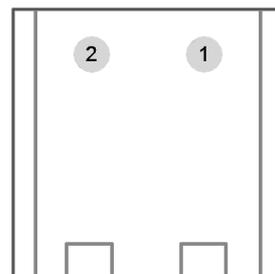

Figure 3-17 Pin Arrangement of Dry Contact IN 1—5 Interface
3.8.4 Definition of dry contact port Pin arrangement of dry contact IN 1—5 interface is shown in Figure 3-17.
- Output dry contacts include operating mode and fault warning of the machine (detailed definitions can be seen in Table 3-4). Every output dry contact port is equipped with a normally open switch and a normally closed switch, and user can select it on basis of actual condition. Pin arrangement of ports is shown in Figure 3-17.